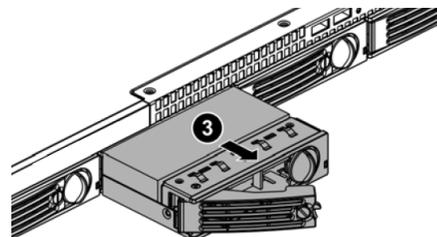

Figure 3. Removing Drive Carrier from Chassis
3. Pull the lever and slide the drive carrier out (Figure 3).